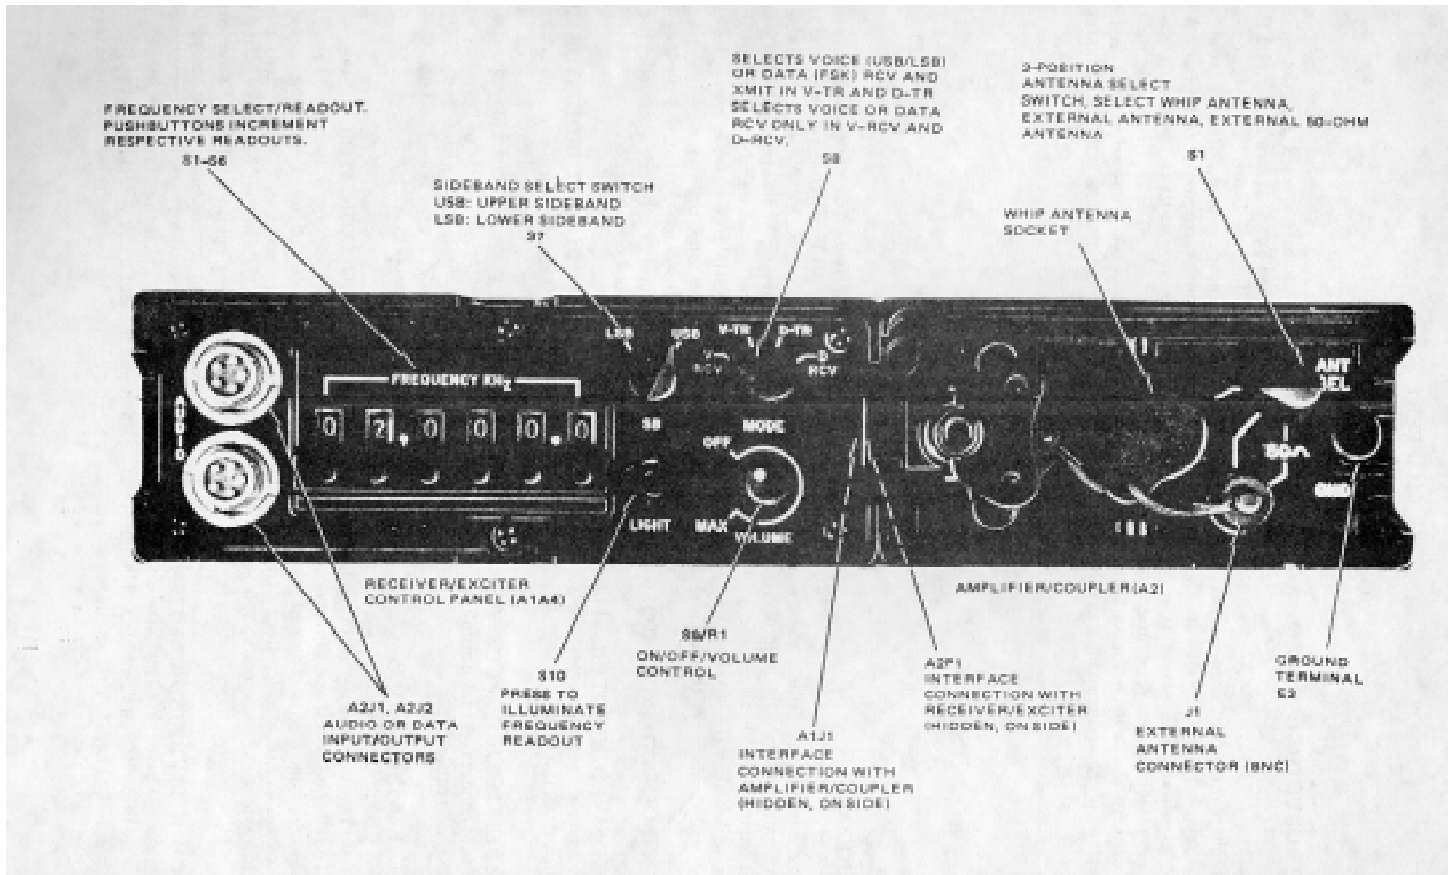

Figure 2-1. AN/PRC-104 Controls and Indicators
1-27. Perform the following test procedure for initial checkout of the radio set in an operating environment. If any of the results are abnormal refer to the troubleshooting procedure in chapter 4. Refer to figure 2-1 for location of controls and indicators.
**2-6. RECEIVER/EXCITER.** The controls, indicators, and connectors of the receiver/exciter (fig 2-1) are listed in table 2-1.
**2-7 AMPLIFIER/COUPLER.** The controls, indicators and connectors of the amplifier/coupler (fig 2-1) are listed in table 2-2.